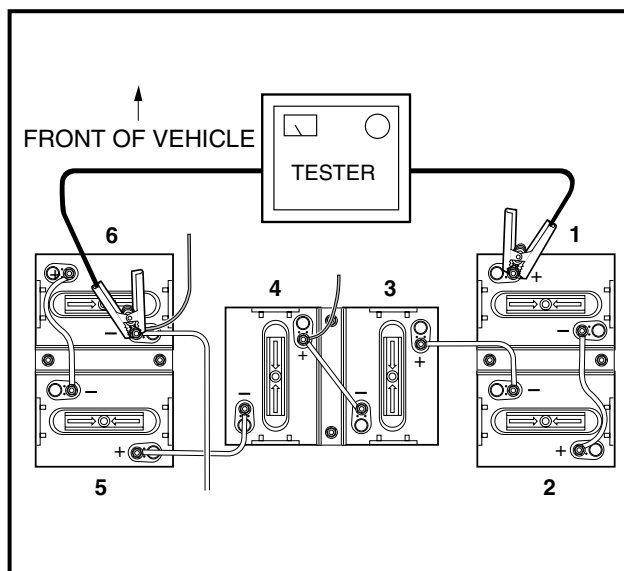

Figure 13-9 Battery Discharge Test
2. Connect the tester probes to the positive (+) post of battery no.1 and negative (-) post of battery no. 6 (Figure 13-9, Page 13-11).